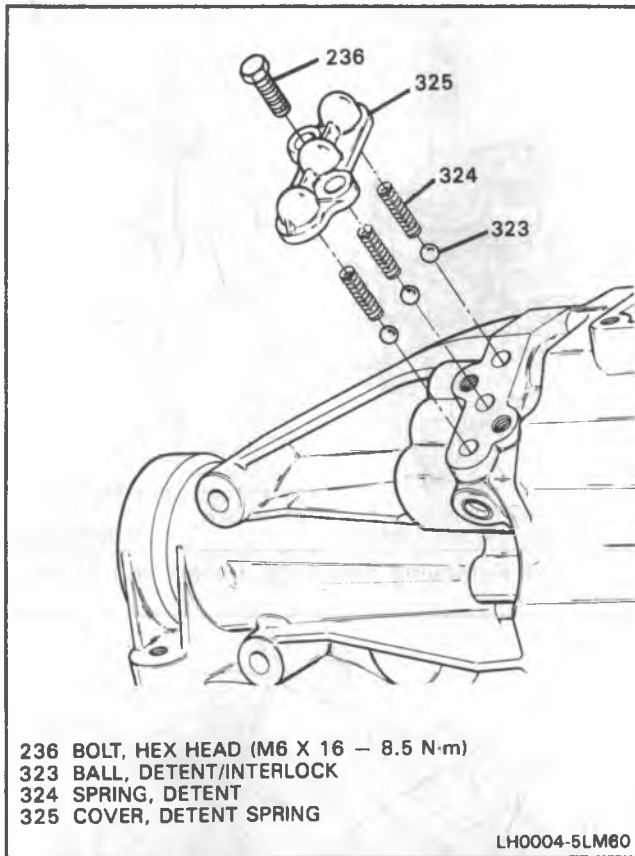
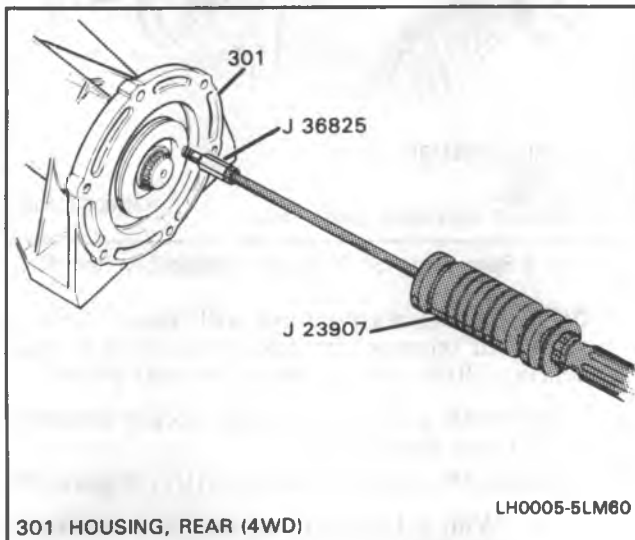

Figure 4 Removing Shift Rail Detent System
Figure 5 Removing 4WD Oil Seal
5. Two bolts (236), detent spring cover (325), springs (324), and balls (323) (Figure 4).
- It may be necessary to remove sealant from inside of holes to remove the balls (323).
6. Output shaft oil seal (320) using J 36825 and J 23907 (Figure 5).